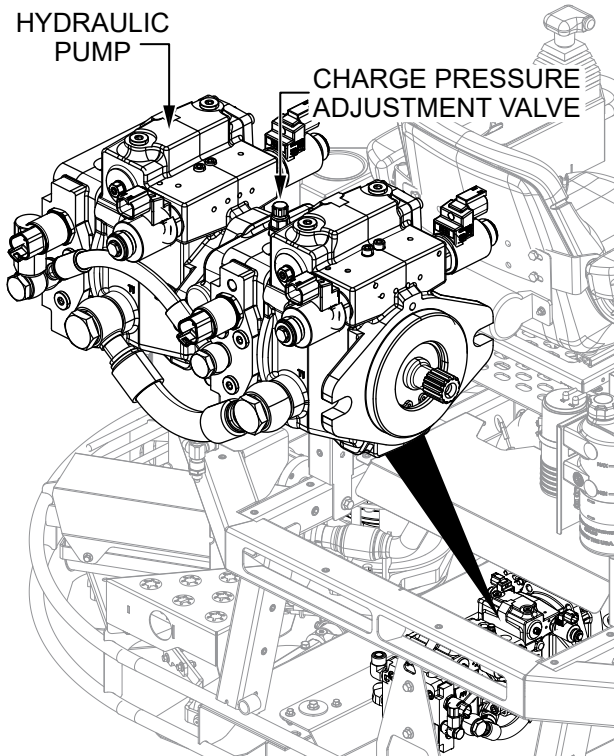

Figure 40. Charge Pressure Adjustment Valve
2. Remove the protective cap on the **charge pressure adjustment valve** (Figure 40) and adjust the charge pressure as needed. Replace the protective cap and reinstall the rear platform and fuel tank when finished.